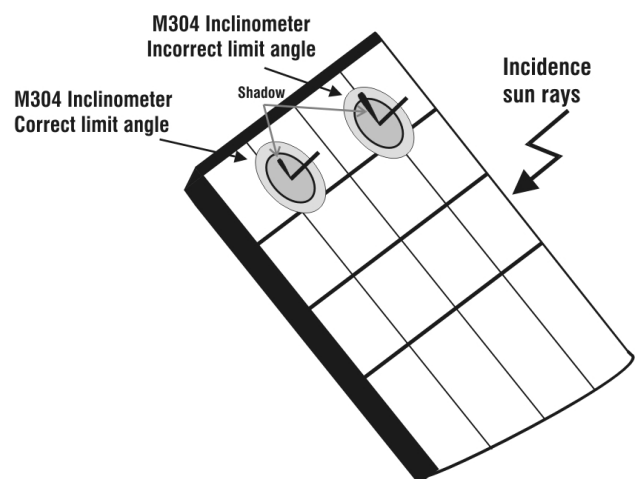

Fig. 8: Positioning of M304 inclinometer
11. Mount the M304 (inclinometer) supplied accessory, position and hold it on the plane of module. **Verify that the sun shadow falls on the disc within the “limit internal circle” on the disc itself (Fig. 8).** If this is not the case the incidence angle between sun rays and the module surface is too high and not complying with the test conditions declared by the module manufacturer. As a consequence the measurements performed by the meter are not ok and all measurements steps shall be repeated at another daytime.